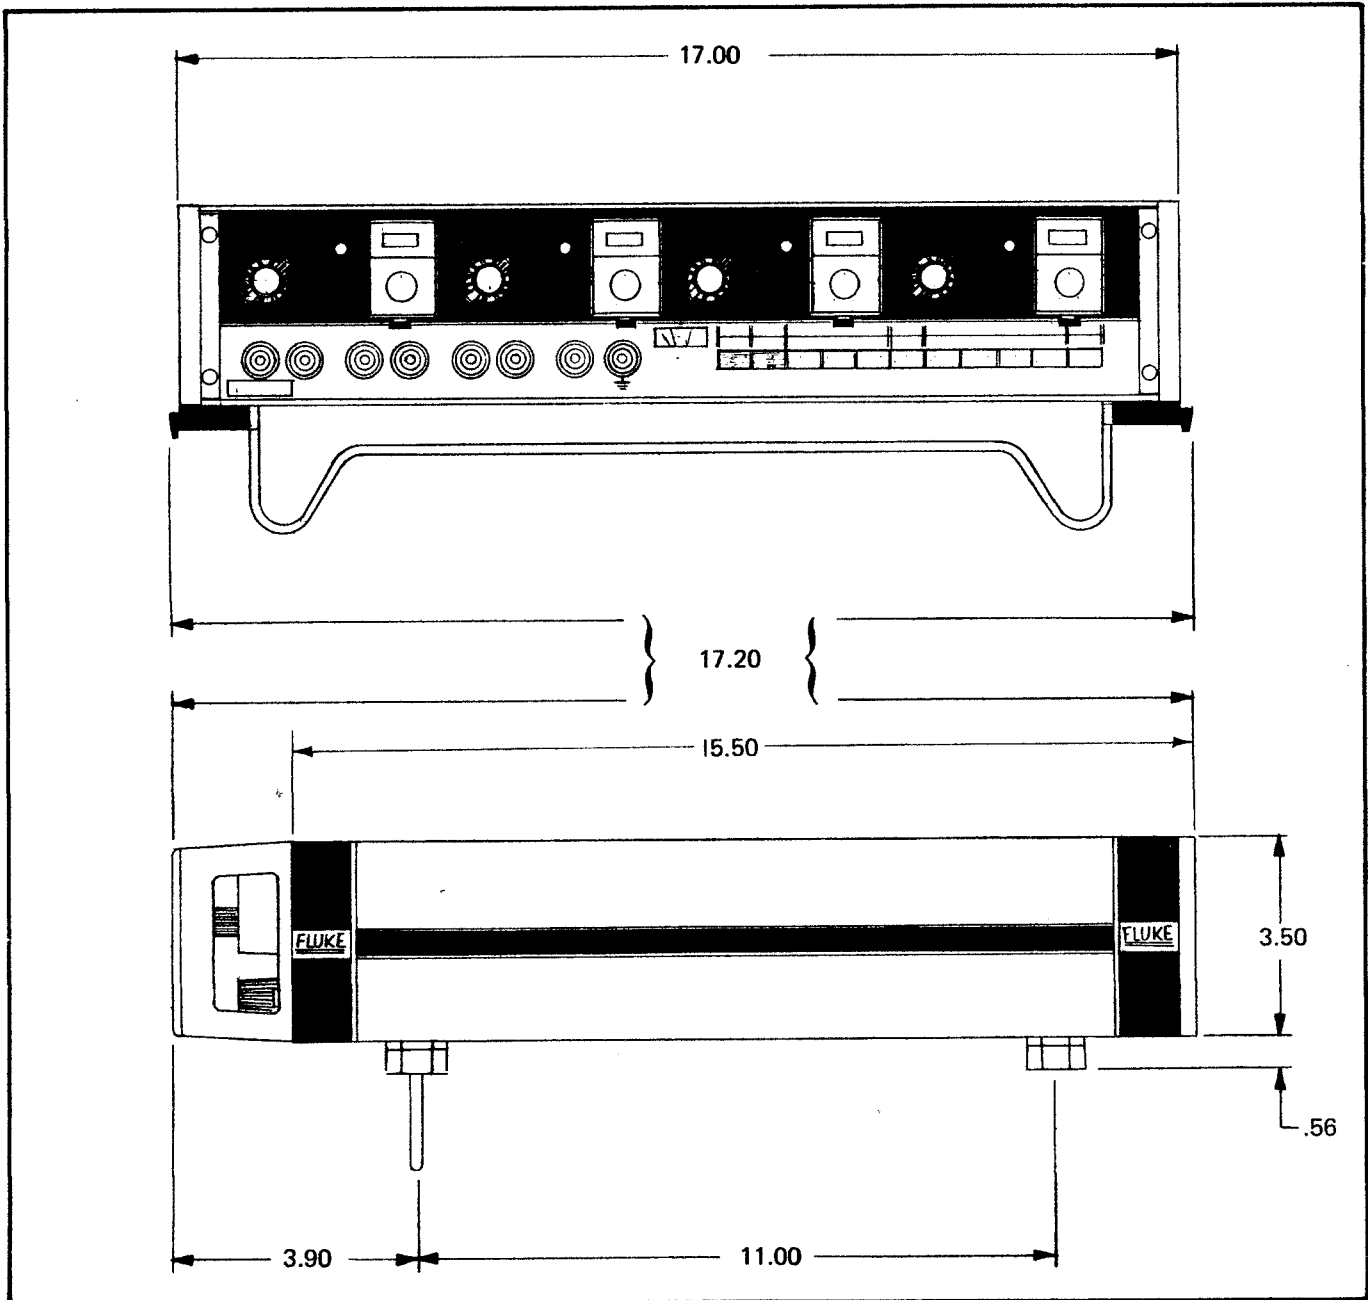

Figure 1-1. MODEL 730A OUTLINE DRAWING
**Size:** 3.5" high x 17" wide x 15.5" deep. (See outline drawing, Figure 1-1).